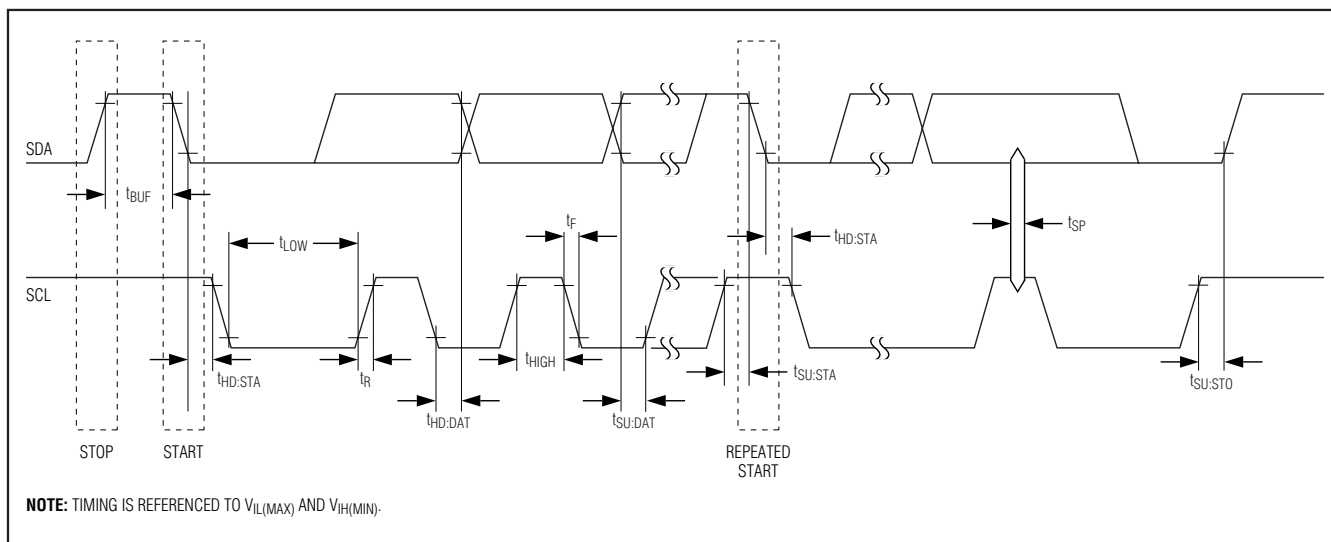

Figure 6. I2C Timing Diagram
**Repeated START Condition:** The master can use a repeated START condition at the end of one data transfer to indicate that it will immediately initiate a new data transfer following the current one. Repeated STARTs are commonly used during read operations to identify a specific memory address to begin a data transfer. A repeated START condition is issued identically to a normal START condition. See Figure 6 for applicable timing.
**Bit Write:** Transitions of SDA must occur during the low state of SCL. The data on SDA must remain valid and unchanged during the entire high pulse of SCL, plus the setup-and-hold time requirements (Figure 6). Data is shifted into the device during the rising edge of the SCL.
**Bit Read:** At the end of a write operation, the master must release the SDA bus line for the proper amount of setup time (Figure 6) before the next rising edge of SCL during a bit read. The device shifts out each bit of data on SDA at the falling edge of the previous SCL pulse, and the data bit is valid at the rising edge of the current SCL pulse. Remember that the
**Acknowledgement (ACK and NACK):** An Acknowledgement (ACK) or Not Acknowledge (NACK) is always the ninth bit transmitted during a byte transfer. The device receiving data (the master during a read or the slave during a write operation) performs an ACK by transmitting a zero during the ninth bit. A device performs a NACK by transmitting a 1 during the ninth bit. Timing for the ACK and NACK is identical to all other bit writes (Figure 6). An ACK is the acknowledgment that the device is properly receiving data. A NACK is used to terminate a read sequence or as an indication that the device is not receiving data.